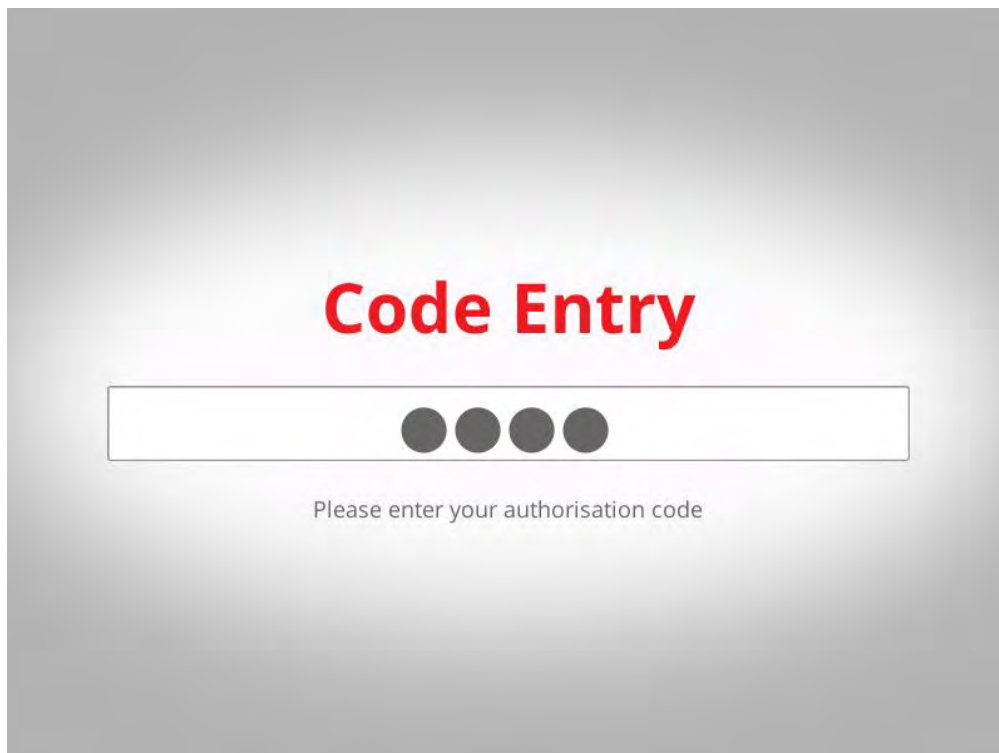

Figure 19 - Code Entry Screen
- **Display.** Specify how password characters entered on the screen should be displayed (refer Figure 19).